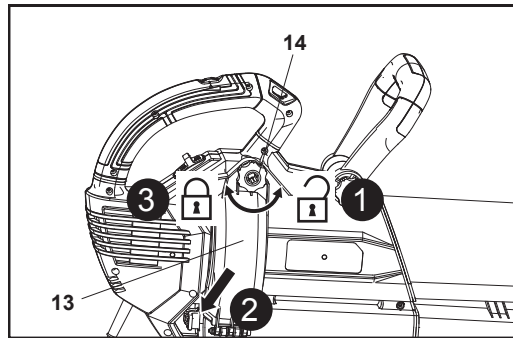

Fig. 13
1. Place the product on an even surface and remove the collection bag (9) in reverse order of assembly.
2. Check the upper (6) and lower tube (7) for blockages. Carefully tap the tubes (6, 7) to loosen the blockage.
3. Open the impeller wheel housing (13) for removing heavy blockages.
- Turn the locking knob (14) anticlockwise to loosen, then open the impeller wheel housing (13) (Fig. 13, steps 1, 2).
- Secure the impeller wheel housing (13) by closing it and tightening the locking knob (14) clockwise (Fig. 13, step 3). Ensure the built-in switch clicks in place with an audible sound.